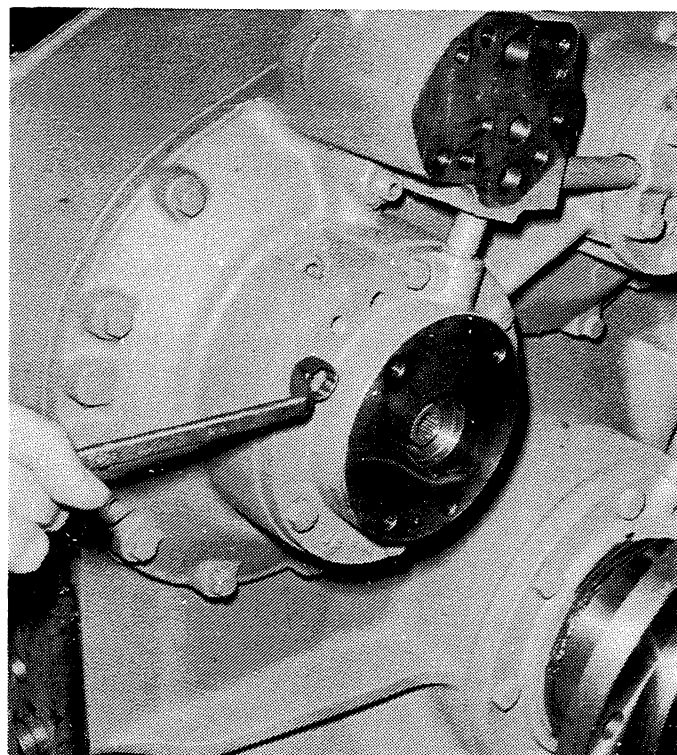
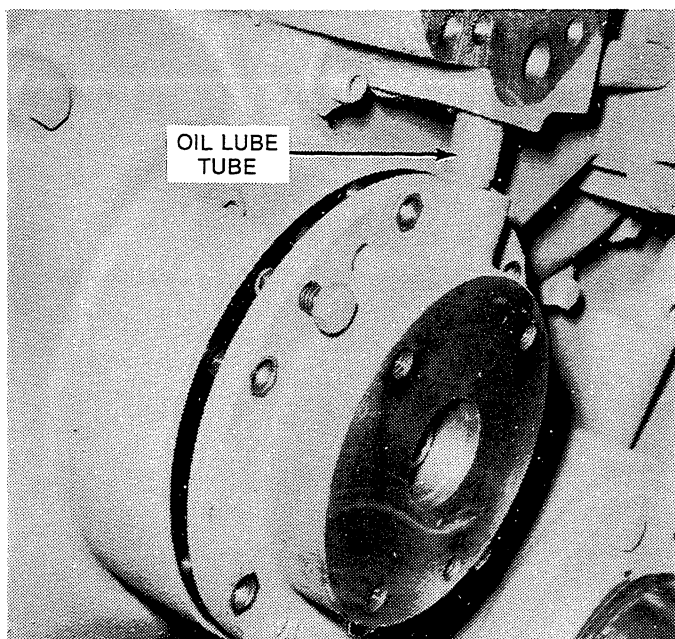

Figure 6-5. *Removing or Installing Pump Support Retaining Screws.*
Figure 6-6. Removing Pump Support with Pusher Screws.
4. Remove six hex-head screws (see Figure 6-5) and use two of the screws as pushers to remove the pump support. See Figure 6-6. The oil lube tube with an O-ring on each end will come off.